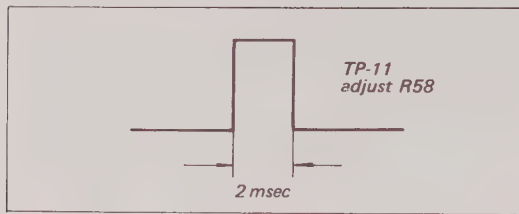

Fig. 7-13. Dropout compensator blanking pulse width
4. Adjust R58 for 2 msec pulse width (duration of positive-pulse). See Fig. 7-13.